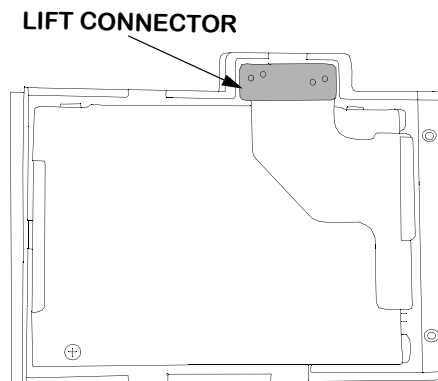

Figure 17 Hard Drive Lift Tab
- (5) Slide hard drive cover outward.
- (6) Lift hard drive cover and set aside.
- (7) Carefully insert a thin, flat object under corner of connector and lift up to remove from connector slot, refer to Figure 17.
- (1) If required, remove two screws that hold hard drive cover. Set screws aside.
- (2) Slide hard drive cover outward.
- (3) Lift hard drive cover and set aside.
- (4) Carefully insert a thin, flat object under corner of orange connector and lift up to remove hard drive ribs from connector slot, refer to **Figure 17**.
- (5) Using orange connector, carefully lift hard drive to remove it from Pen Tablet assembly.
- (6) Set Pen Tablet aside.